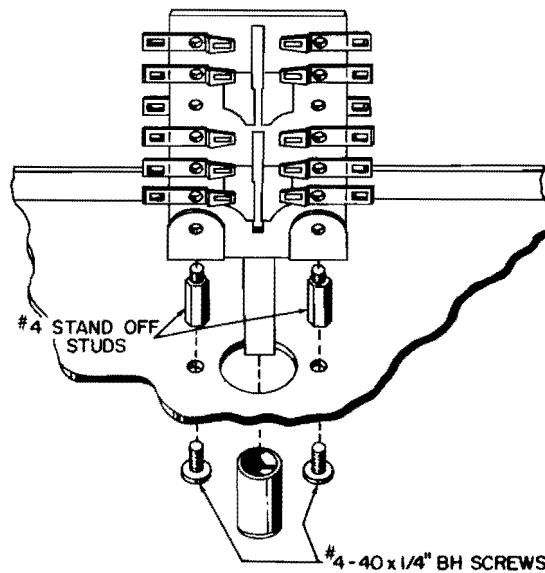

FIGURE 8
- (1) 39. Install SE (READ METER switch) at location SE. Position terminals as shown in Figure 5. Use the two #4 stand-off studs and two #4-40 x 1/4" BH screws. See Figure 8 for method of mounting. Place the push-button knob on the switch shaft from front of panel and push it down as far as it will go. Make sure the button does not bind against the sides of the hole. If necessary, loosen the screws and move the switch until button clears hole. Then re-tighten screws.